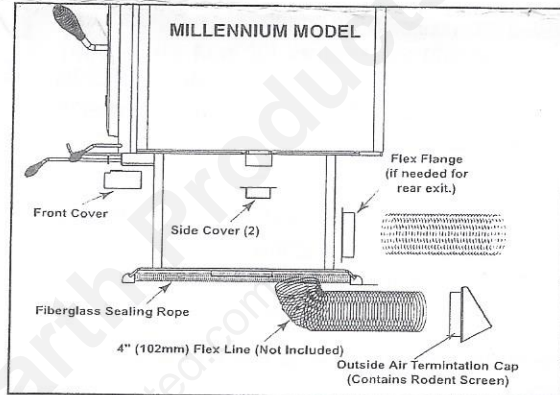

Figure 1
2. Using a #2 Phillips screwdriver, remove 2 bolts beneath the ashcatcher. Re-use bolts to install front cover. Be certain that the cover is pushed back as far as possible. **Figure 1.**
3. Install side covers on each side. Slide covers into area and secure with 4 sheet metal screws. **Figure 1.**